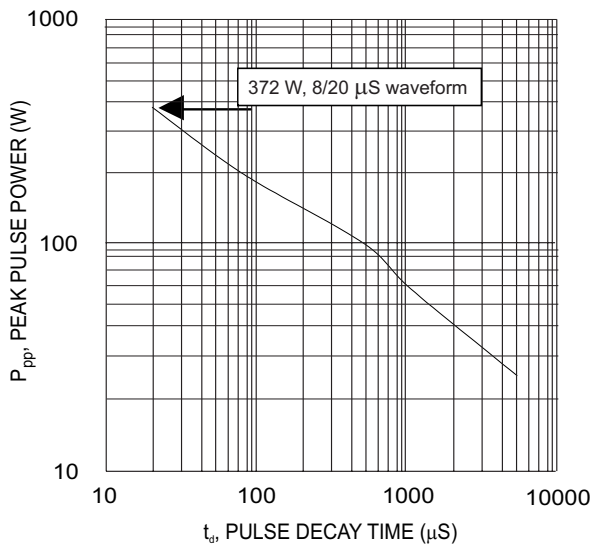

Fig. 2 Unidirectional Non-Repetitive Peak Pulse Power vs. Pulse Duration or Pulse Width
e.g.  $P_{pp} = 372$  watts for pulse width (td) of 20  $\mu S$ , then  $372 \text{ watts} = K (20)^{-0.5}$  and  $K = 372 / (20)^{-0.5} = 372 * \sqrt{20} = 1663.63$
Now,  $P_{pp}$  when  $td = 50 \mu S$ :  $P_{pp} = 1663.63 (50)^{-0.5} = 1663.63 / (\sqrt{50}) = 235.27$  watts (close to measured value see fig. 2)